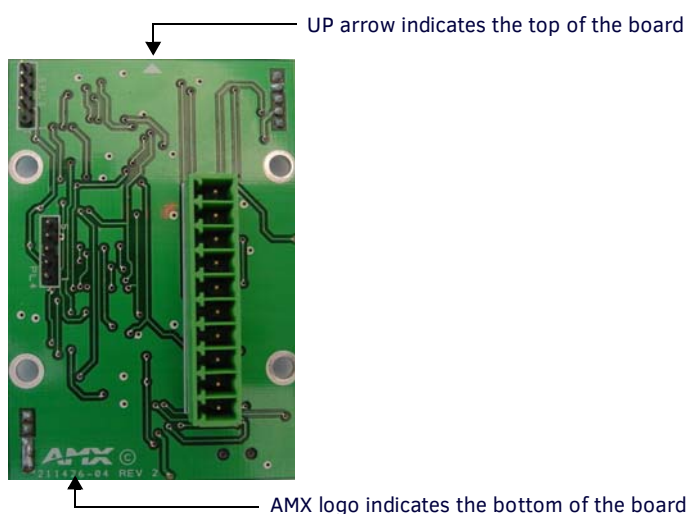

FIG. 33 Orientation marks on the circuit boards
- Note the orientation of the board - it must be oriented in the same direction when replaced. The top is indicated by an UP arrow at the top center of the board. The bottom is indicated by the AMX logo (FIG. 33).
- Note the orientation of the board - it must be oriented in the same direction when replaced. The top of the is indicated by an UP arrow at the top center of the board. The bottom is indicated by the AMX logo (FIG. 33).
- Be certain that the circuit boards are oriented correctly (see FIG. 33)